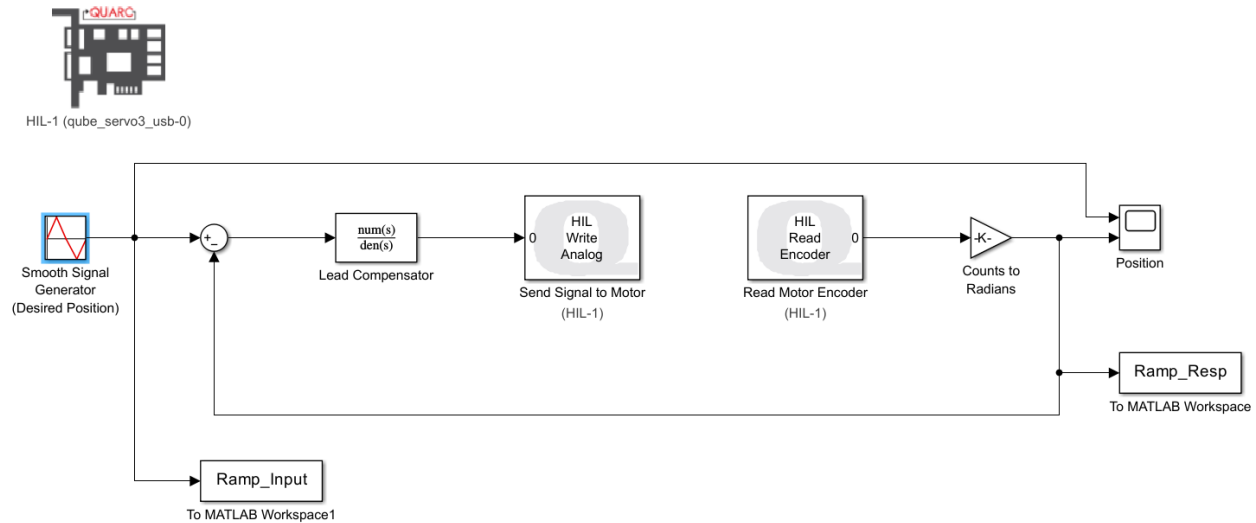

Figure 3: Target Simulink Model for the Ramp Response Experiment with Lead Compensator.
- iv) When you are done building your model it should look like the target model shown in Figure 3.
- Plot both the ramp input and output (ramp response) on the same scope (see Figure 3). This will make it easy for you to calculate the steady-state error using cursors on the scope.